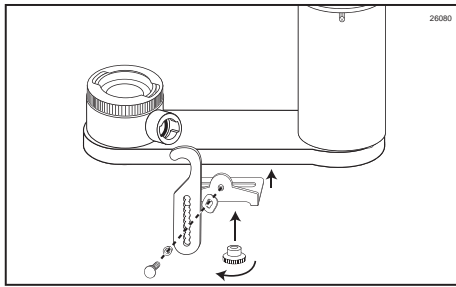

Figure 136
2. Assemble the Suspension Bracket and install it onto the Gear Box on the side closest to the operator. Ensure all parts are assembled in the proper position. (See Figure 136.)